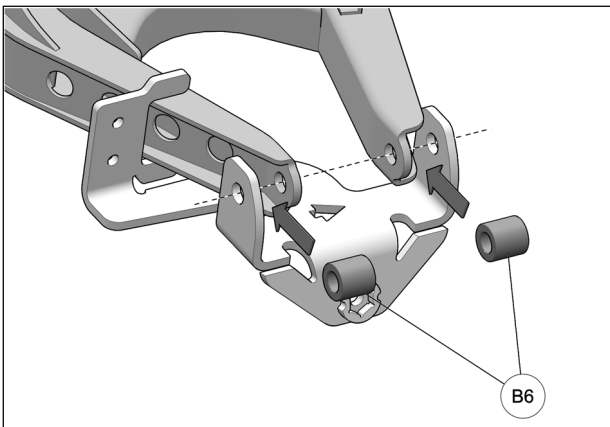

Fig. 7
8. Insert bushings (**B6**) between anchor bracket and suspension arm. Align anchor bracket and bushing holes with suspension arm bolt holes. See Fig. 7